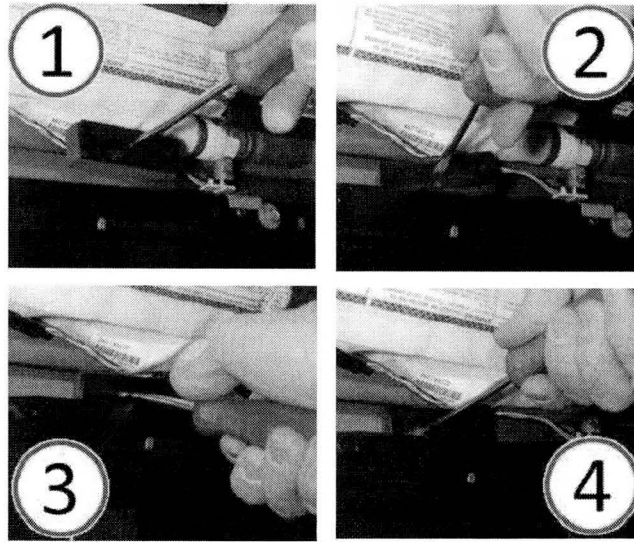

Fig. 6 Insert Roof Spacer
9. The roof spacer needs to be inserted fore/aft between the bodyside aperture flange and the sunroof reinforcement ring then compress the roof spacer foam against the underside of the roof sheet metal as shown in roof spacer insertion steps (1, 2, 3, 4) of (Fig. 6)